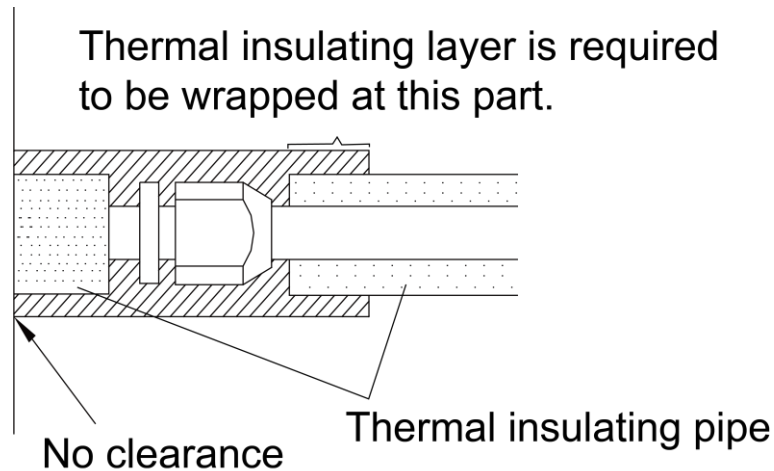

Fig.35
- 3) Joints at indoor and outdoor units should be wrapped with insulating material and leave no clearance between pipe and wall. See Fig.35.